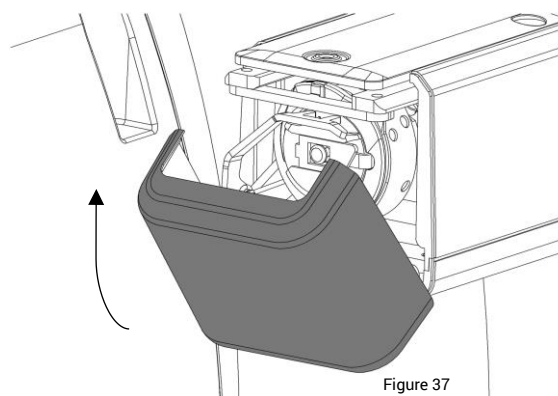

Figure 37
5. Close the bobbin housing unit. See Figure 37.